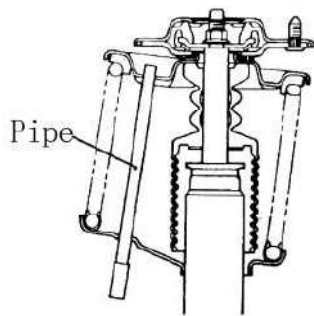

Fig.14A-8
1) SELF-LOCKING NUT INSRTALLATION(Fig.14A-8, Fig.14A-9)